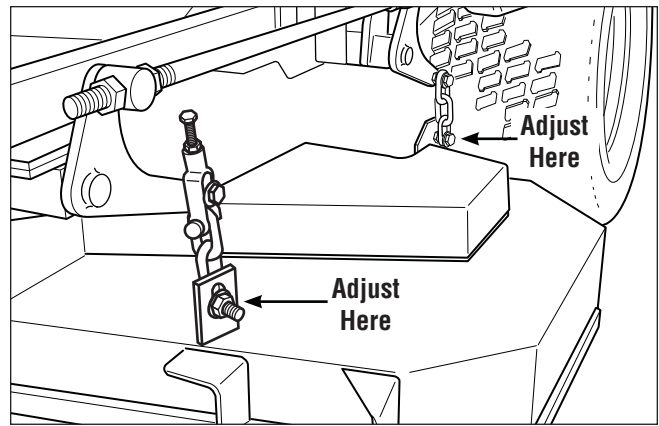

Figure 41. Hanger Chain Adjustment
4. Loosen the nuts and allow the front of the deck to rest on the 2 x 4's. Slide the chains down in the slots until the chains are tight and tighten the nuts. See Figure 41.
5. Loosen the nuts and allow the rear of the deck to rest on the 2 x 4's. Slide the chains down in the slots until the chains are tight and tighten the nuts. See Figure 41.